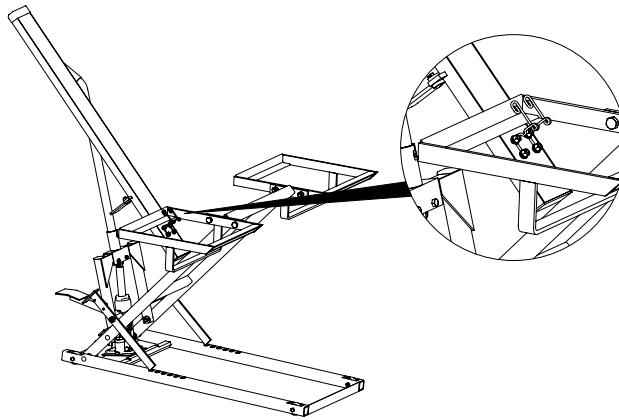

Figure 3 - Starting assembly position
3. With the Lawn Mower Lift in the raised position, hold the track with the springs facing up and the bottom of the track against the wheel bracket. (see fig. 3)